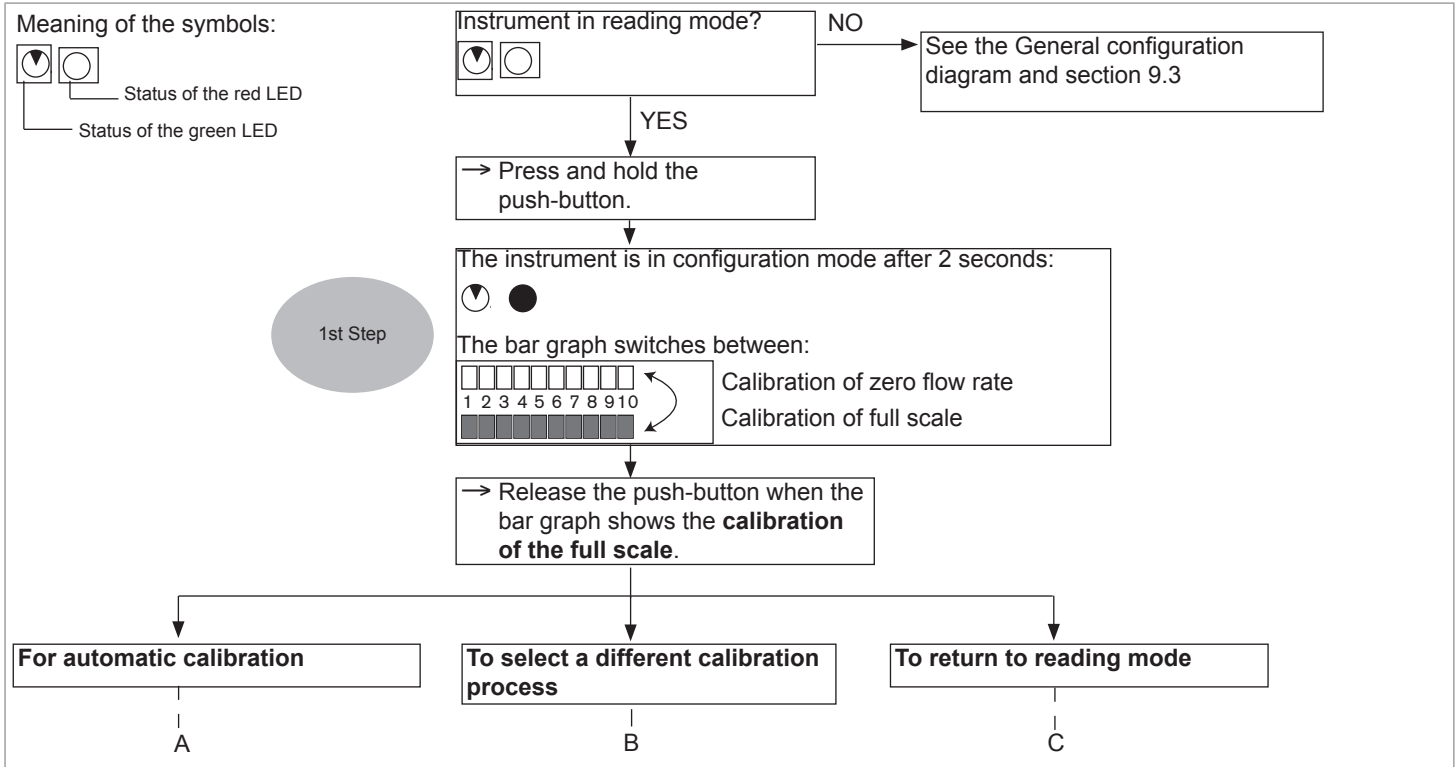
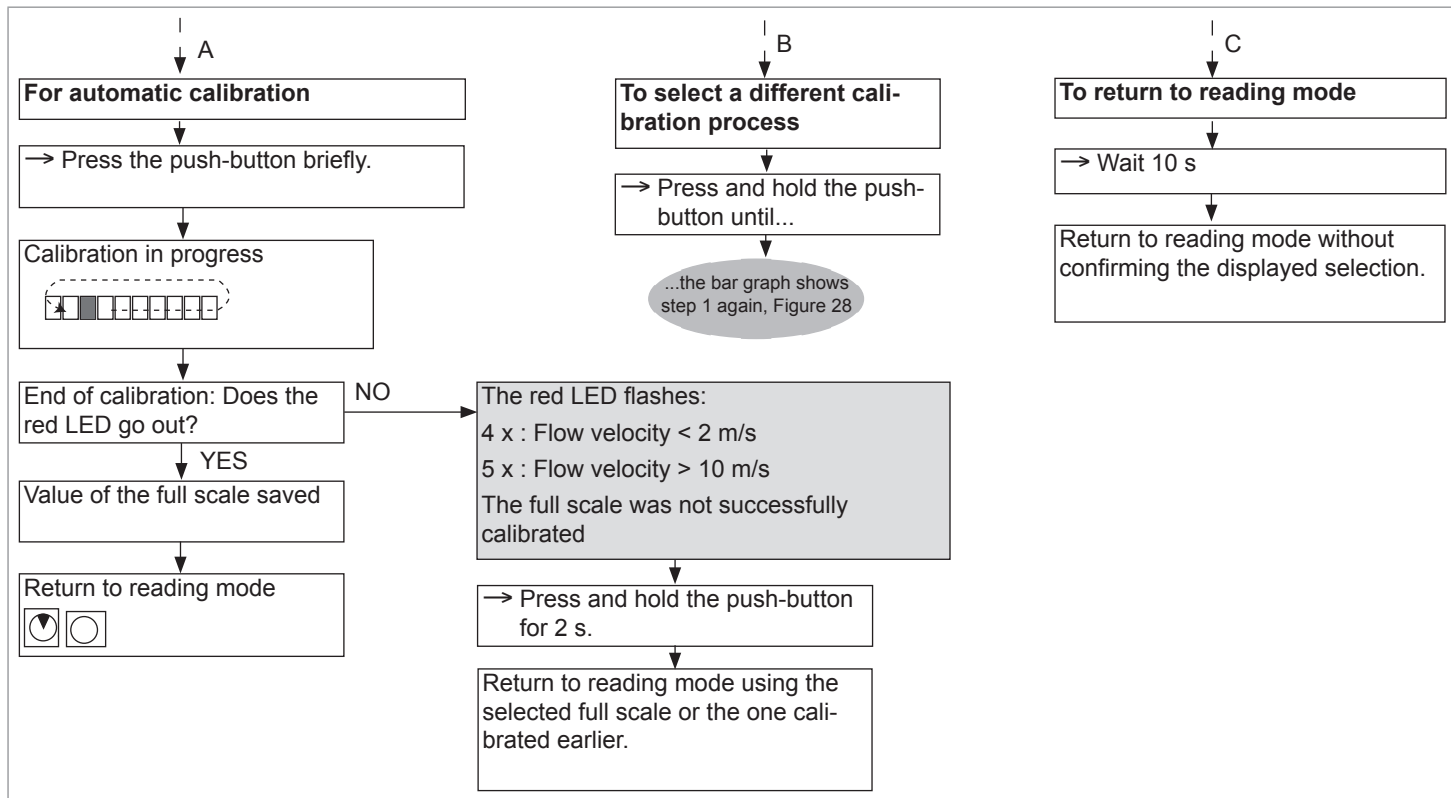

Figure 28: Calibration of full scale, part 1
Figure 29: Calibration of full scale, part 2
- Calibrate the full scale, see Figure 28 and Figure 29.